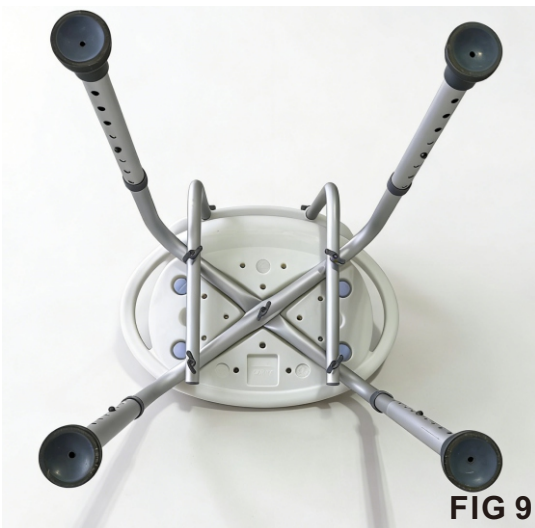
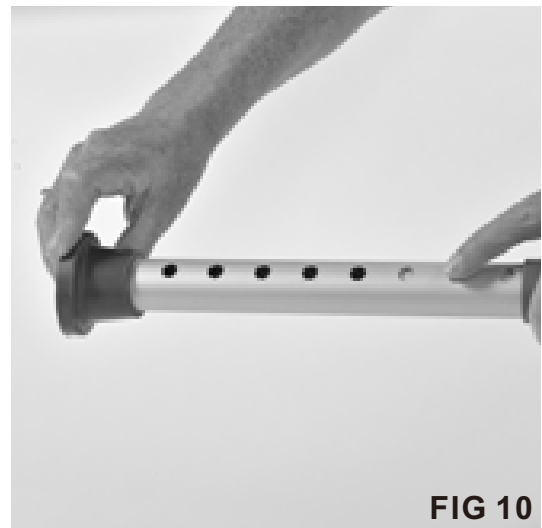

FIG 9
FIG 10
- Take first Adjustable Leg with Rubber Foot and connect it to U-Shaped Leg Brace, (Refer to FIG 9). Using thumb, push down on the push button on the U-Shaped Leg Brace. The Adjustable Leg with Rubber Foot will then slide onto the U-Shaped Leg Brace, (Refer to FIG 10)